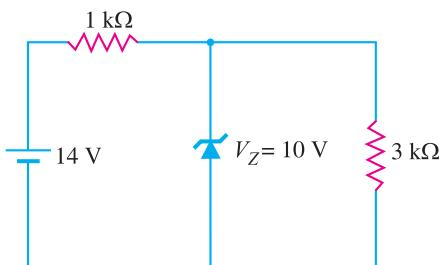

Fig. 6.79
14. In the circuit shown in Fig. 6.79, is zener diode in the on or off state? **[Off]**